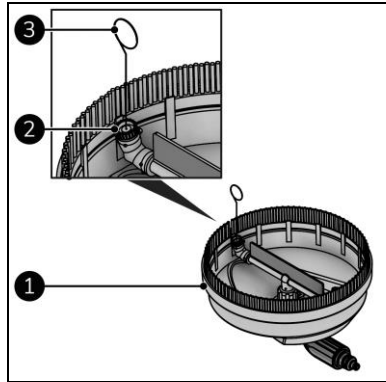

Figure 24
3. Remove the floor cleaner (Figure 24, pos. 1) from the extension lance (Figure 5, pos. 1) by turning it 90°.
4. Clean both nozzles (Figure 24, pos. 2) with the cleaning pin (Figure 24, pos. 3).